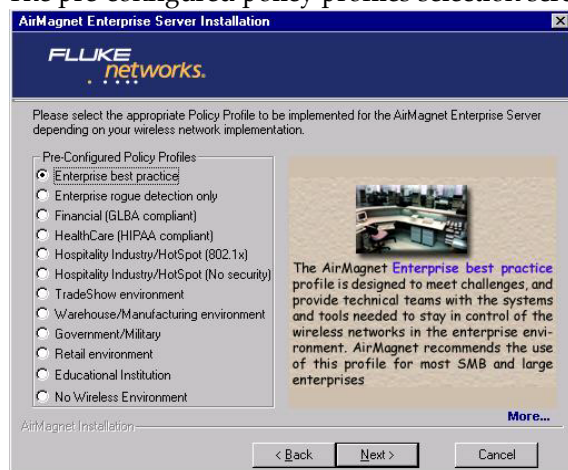

Figure 2-5: Selecting a pre-configured policy profile
- 9) The pre-configured policy profiles selection screen appears. See Figure 2-5.